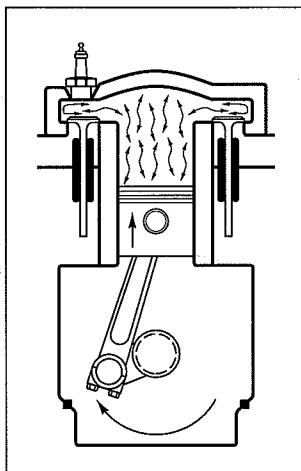

Figure 6-15:
2. Compression stroke: (See Figure 6-15.) The piston moves back *up*, compressing the fuel/air mixture into a tiny space between the top of the piston and the top of the cylinder. This space is called the combustion chamber and also happens to be where the electrode end of the spark plug enters the cylinder. The difference between the total space inside the cylinder and the space inside the combustion chamber is called the compression ratio. It indicates that the pressure has been raised from normal air pressure of 15 psi (pounds per square inch) to hundreds of psi, which makes the resulting explosion much more intense.